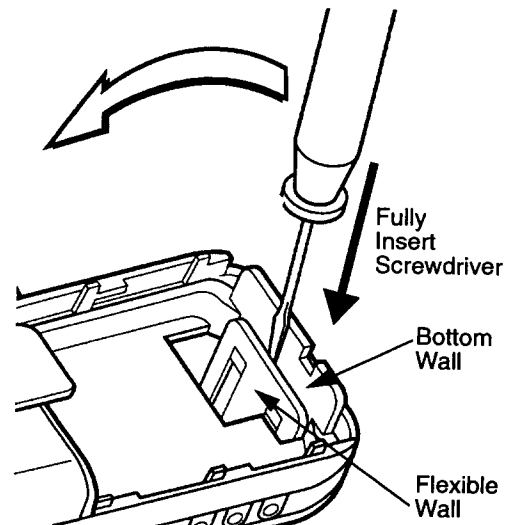

Figure 1-4. Remove Back Cover
2. Fully insert a screwdriver between bottom wall of back cover and flexible wall of housing (Figure 1-4).
3. Tilt screwdriver towards body of radio until the back cover disengages from housing (Figure 1-4).